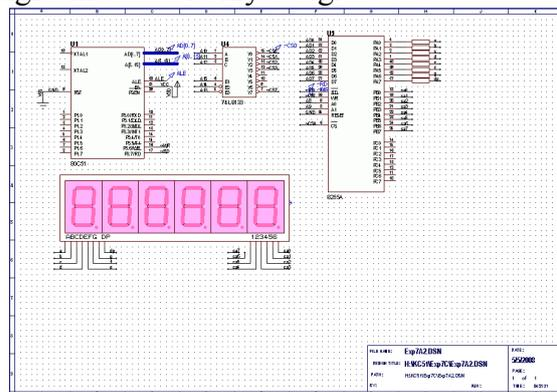

Fig. 5. Experimental Circuit Exp7C.DSN in ISIS.
- 3- Start **Proteus7.6Portable**→**ISIS** in windows and use **File**→**Load design** to open the file-browser, navigate to **Exp8C** folder, and load **Exp8C.DSN** file to ISIS. You will get the design window seen in Fig.5.